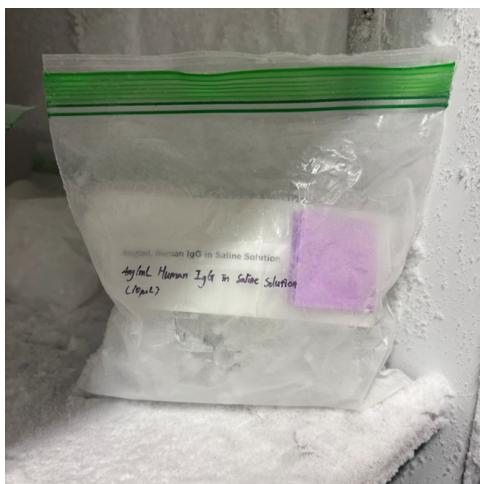

Figure 6: 4 mg/mL Human IgG in Saline Solution
- 1 vial (10 uL) of 4 mg/mL Human IgG in Saline Solution(Figure 6)